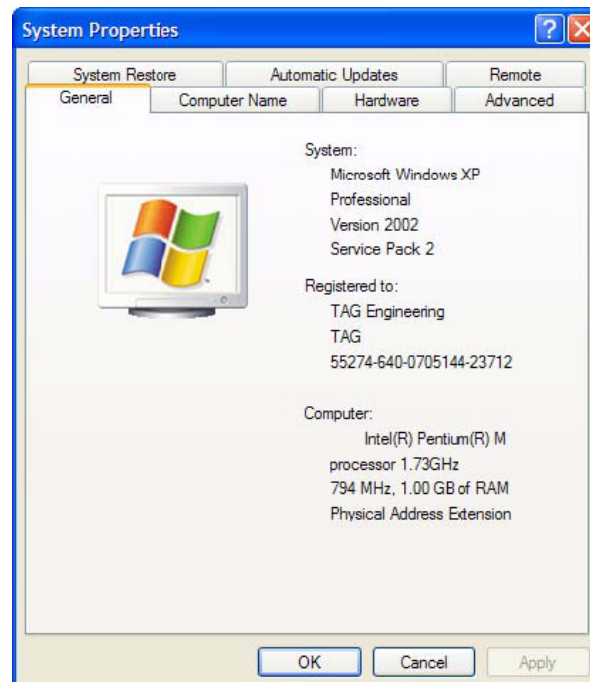

Figure 6-2 System Properties
2. Double-click the **System** icon. (Figure 6-2).